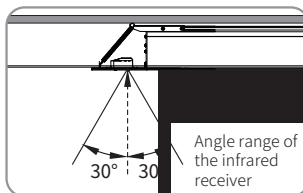

Figure 15
3. Receiver effective angle: $\pm 30^\circ$ from the receiver axis (Figures 15–16).